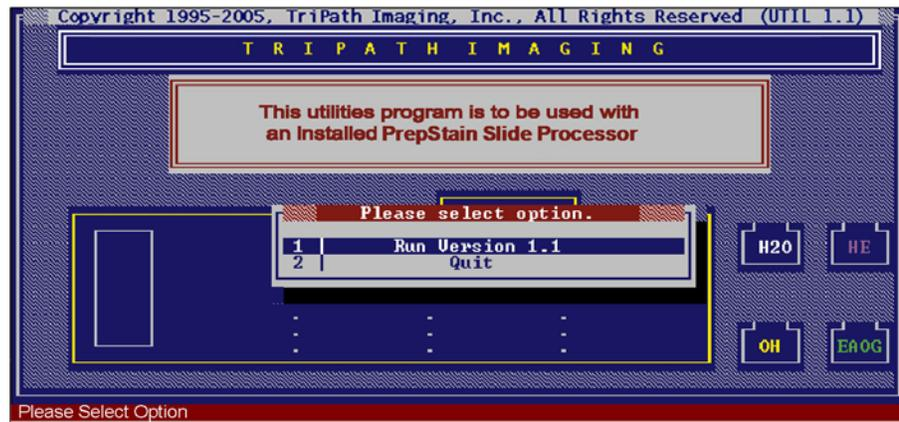

Figure 6-1 Utilities menu
2. The GYN application runs automatically when you start the PrepStain instrument workstation. Exit this application to access a DOS prompt so that you can display the PrepStain Utilities Version Check screen (*Figure 6-1*). This screen provides access to the cleaning process.